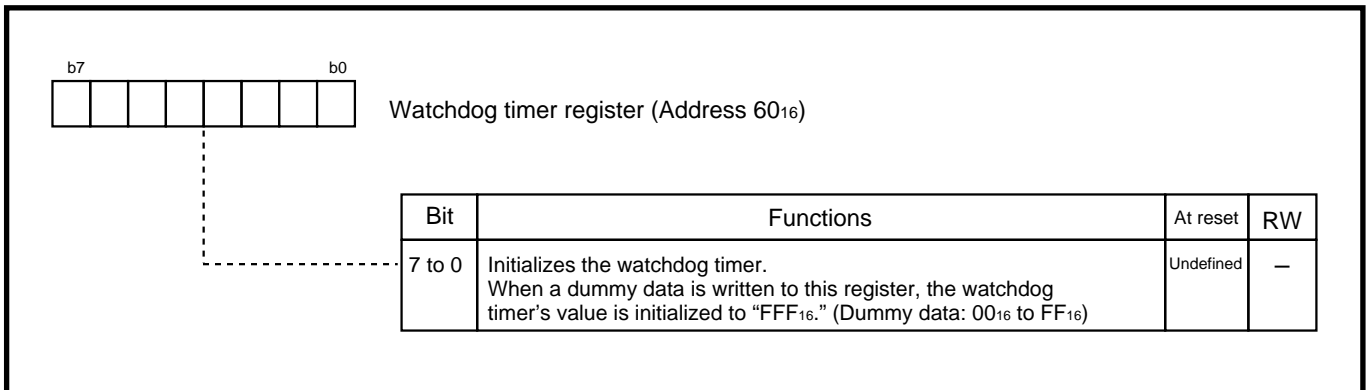

Fig. 9.1.2 Structure of watchdog timer register
- When dummy data is written to the watchdog timer register (Refer to Figure 9.1.2.)